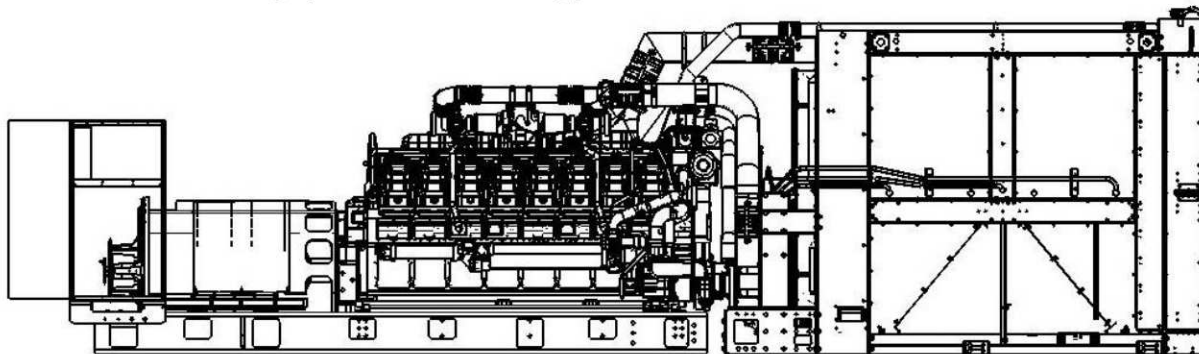
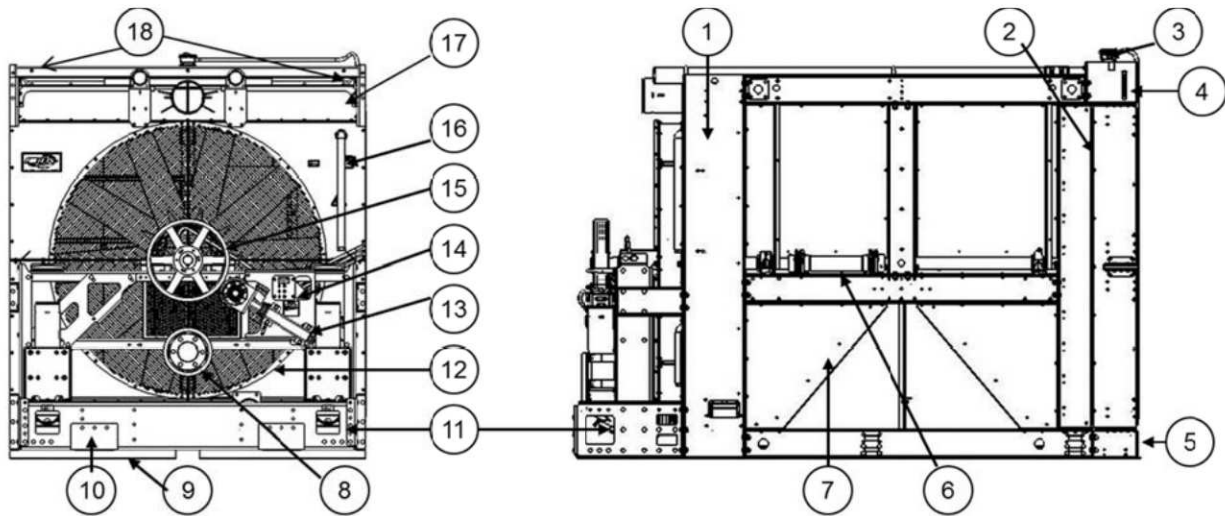

Figure 1: General Installation Overview
Figure 2: Primary components of radiator
- 3.1 The ECCX series radiator is an engine mounted cooling unit used to cool high horsepower gensets. The jacket water (JW) and Air to Air After Cooler (ATAAC) fans are driven at the same speed via a common long shaft with a coupling. Below are two diagrams: **Figure 1**, a general installation overview and **Figure 2**, the primary components of the radiator.
- 5.1.2 Loosen bolts holding floor mounted air baffles in place (Refer to **Figure 2**). Lower baffle so it is flush with floor. Mount baffle to floor.
- 5.4.2 A 3/4" to 1-1/2" line shall be plumbed from the radiator top tank to the engine water pump. Refer to **Figure 2** for JW vent line locations. For engines with separate jacket water and after cooler circuits, each top tank shall have lines plumbed to each water pump.